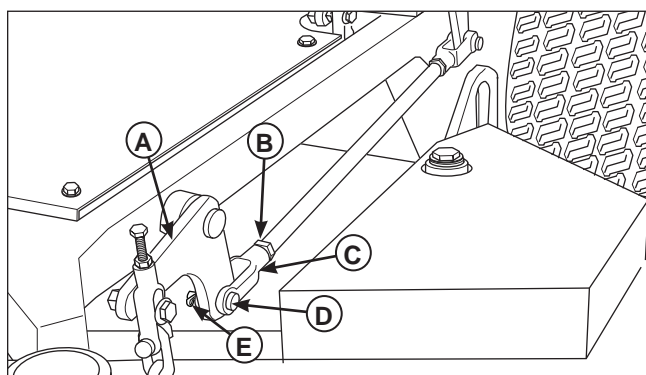

**Figure 25. Deck Height Position**
2. Place a level (A, Figure 25) on top of the cutting height indicator (E) and adjust the cutting height indicator up or down with the deck height adjustment handle (B) until the cutting height indicator is level.
3. Loosen, but do not remove the height indication plate hardware (C) that secures the height indicator plate (D). Maneuver the height indicator plate up or down until the cutting height indicator points to the 3.25" (8,26 cm) mark. Tighten the height indication plate hardware.